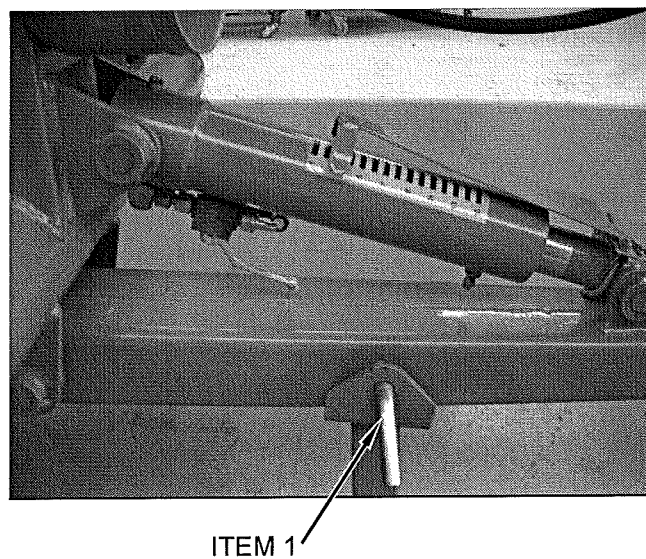

Fig 5.3
When the machine has been securely attached to the tractor, the jackstand can be disconnected by operating the share lift switch, on the driver's control box. When the machine has been raised enough, the anchor pin that secures the jackstand to the drawbar can be removed (Fig 5.3 item 1). The jackstand can then be put into the stored position on the right hand side of the chassis (Fig 5.4) and secured in place by the same pin (Fig 5.4 item 1).